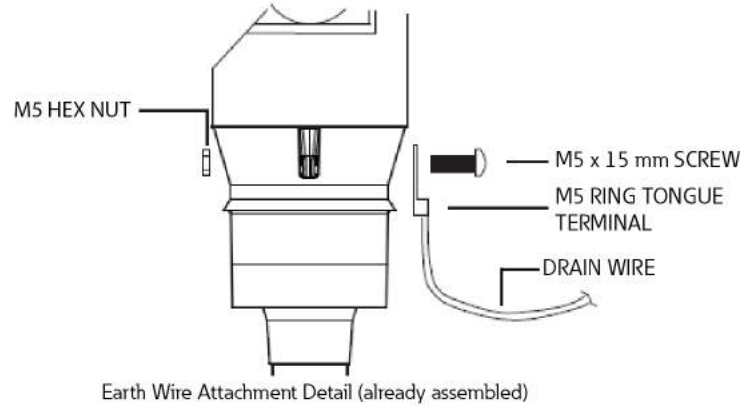

Figure 12. Cable clamp and screen wire earthing arrangement
3. If not already attached, connect drain wire to the grounding tab of tee body as shown in Figure 12.